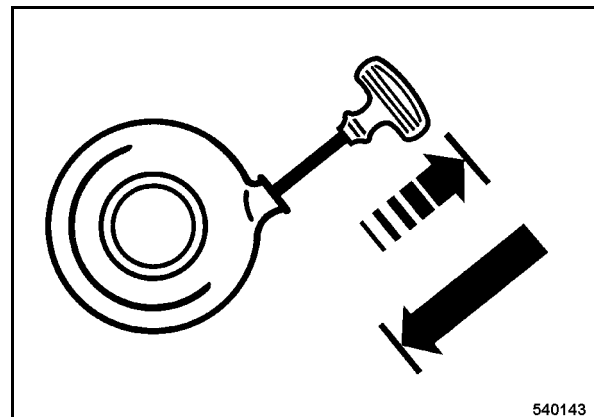

Fig. 26
- Pull the rope by the starter handle (Fig. 26) until resistance can be felt.